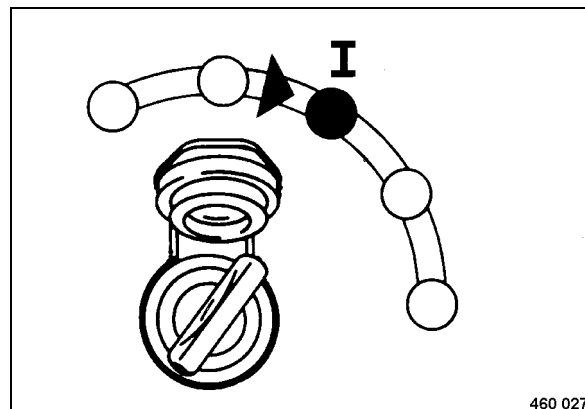

Fig. 82
- Set the starter switch to position "I" (Fig. 82). The control unit shows the start screen.